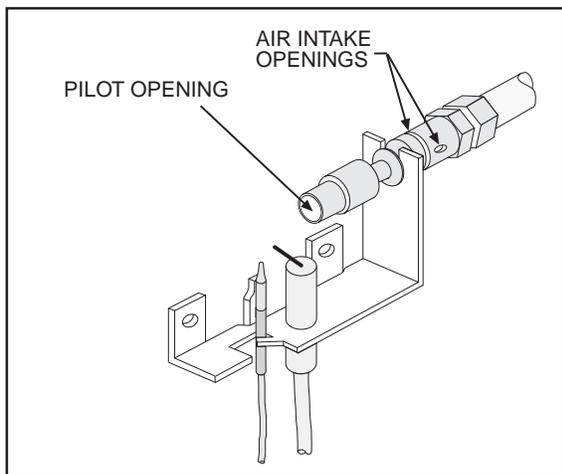

Figure 27
1. Turn your Unvented Gas Log Set to the off position and allow it to cool. Inspect the pilot area (See Figure 27) for any visual contamination or debris (usually lint, hair, spider webs, or small insects). Lightly brush off all external surfaces while vacuuming loosened debris from the pilot opening. **Be careful not to brush any foreign material into the pilot opening.**